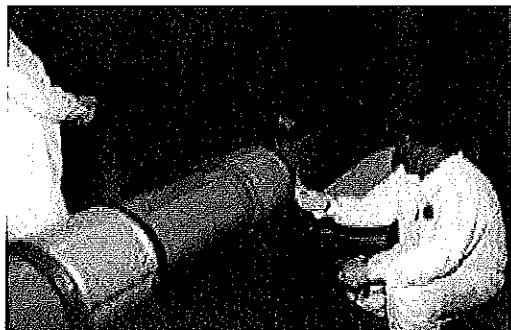

Figure 21
- 4.19 Seal both edges and trailing edge of the sleeve with the remaining adhesive using the paintbrushes (Figure 21).